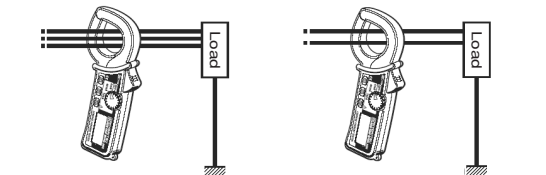

Fig. 3 Measuring out of balance leakage current
- (3) Measuring out of balance leakage current (See Fig. 3): Clamp onto all conductors except a grounded wire. Measured current value is shown on the display.